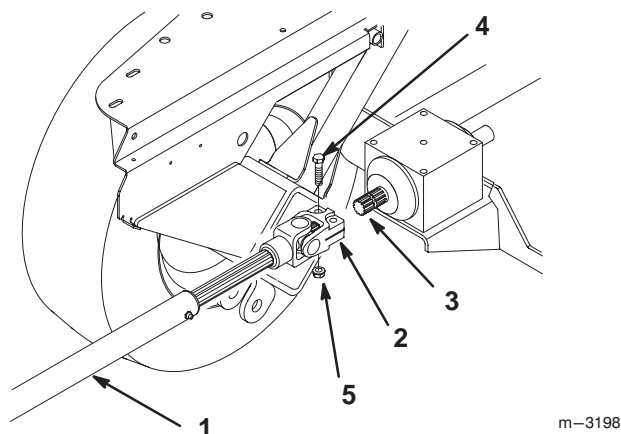

Figure 16
8. Remove 2 bolts (3/8 x 1-5/8 in. (41.5 mm)) and locknuts (3/8 in.) from universal joint and slide the driveshaft off gearbox shaft (Fig. 16).